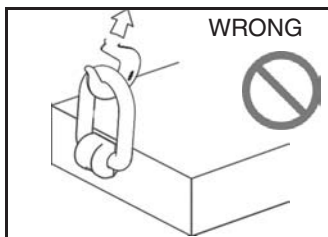

Figure 2
- Apply partial load and check proper alignment. There should be no interference between load (work piece) and weld-on pivoting link (Figure 2).